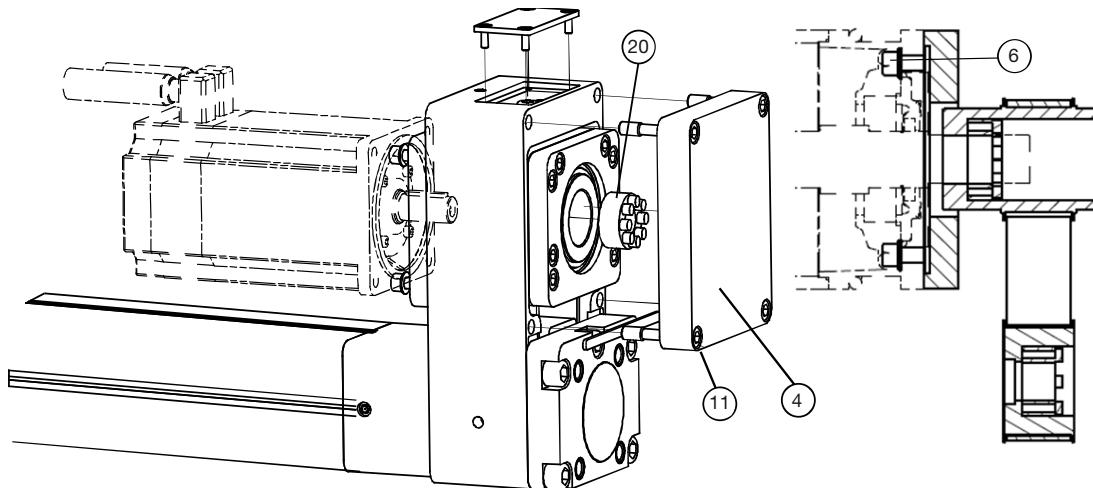
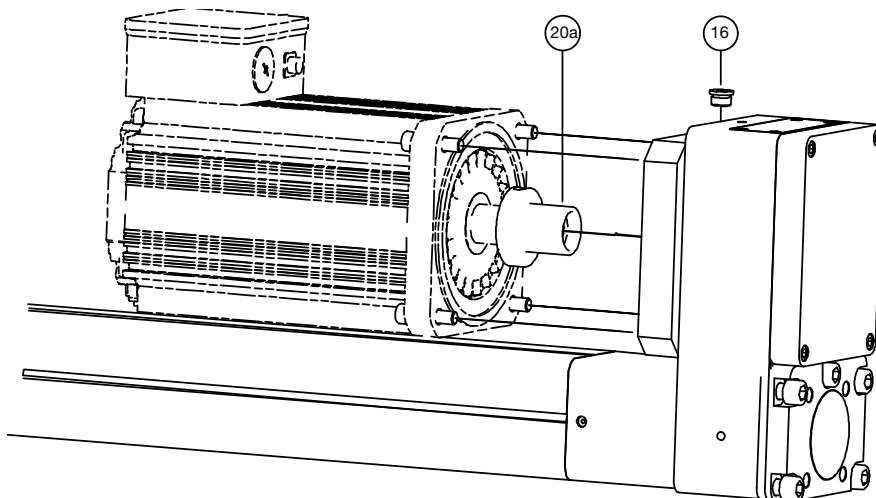

Figure 24: ETH1xx: Motor/ gear assembly parallel
Figure 25: ETH1xx: Motor/ gear assembly parallel with K1M option
- ◆ Dismantle lid (please refer to Figure 24: ETH1xx: Motor/ gear assembly parallel Pos.4) and screws (please refer to Figure 24: ETH1xx: Motor/ gear assembly parallel Pos.11).
- ◆ Loosen all tensioning screws of the clamping bushing (please refer to Figure 24: ETH1xx: Motor/ gear assembly parallel Pos.20) (approx. 3 mm).
with K1M drive option: loosen tensioning element (please refer to Figure 25: ETH1xx: Motor/ gear assembly parallel with K1M option Pos.20a) via flange sided mounting hole. For this, first loosen the lock screw (please refer to Figure 25: ETH1xx: Motor/ gear assembly parallel with K1M option Pos. 16) and then the adjusting screw of the tensioning element.
- ◆ Loosen motor fixing screws (please refer to Figure 24: ETH1xx: Motor/ gear assembly parallelPos.6).
- ◆ Remove clamping unit (Figure 3 Pos.20, please refer to Figure 24: ETH1xx: Motor/ gear assembly parallelPos.20a).
- ◆ Dismantle lid (please refer to Figure 24: ETH1xx: Motor/ gear assembly parallelPos.4) and screws (please refer to Figure 24: ETH1xx: Motor/ gear assembly parallelPos.11).
with K1M drive option: insert tensioning element ((please refer to Figure 25: ETH1xx: Motor/ gear assembly parallel with K1M optionPos.20) in the hollow shaft on the motor side and push up to the exterior stop. Adjust tensioning element so that the adjusting screw can be tightened via flange sided mounting holes.
- ◆ Insert clamping bushing (please refer to Figure 24: ETH1xx: Motor/ gear assembly parallel Pos.20) into hollow shaft and push up to the inner stop (not with K1M drive option).
- ◆ Afterwards tighten tensioning screws of the clamping bushing (please refer to Figure 24: ETH1xx: Motor/ gear assembly parallel Pos.20) (please refer to Figure 25: ETH1xx: Motor/ gear assembly parallel with K1M optionPos.20a) crosswise step by step (in three turns with 1/3, 2/3 and full tightening torque), until the screw tightening torque (please refer to Table 2: Tightening torques for motor flange / clamping sleeve) is reached.
- ◆ Mount lid (please refer to Figure 24: ETH1xx: Motor/ gear assembly parallel Pos.4) and screws (please refer to Figure 24: ETH1xx: Motor/ gear assembly parallel Pos.11).